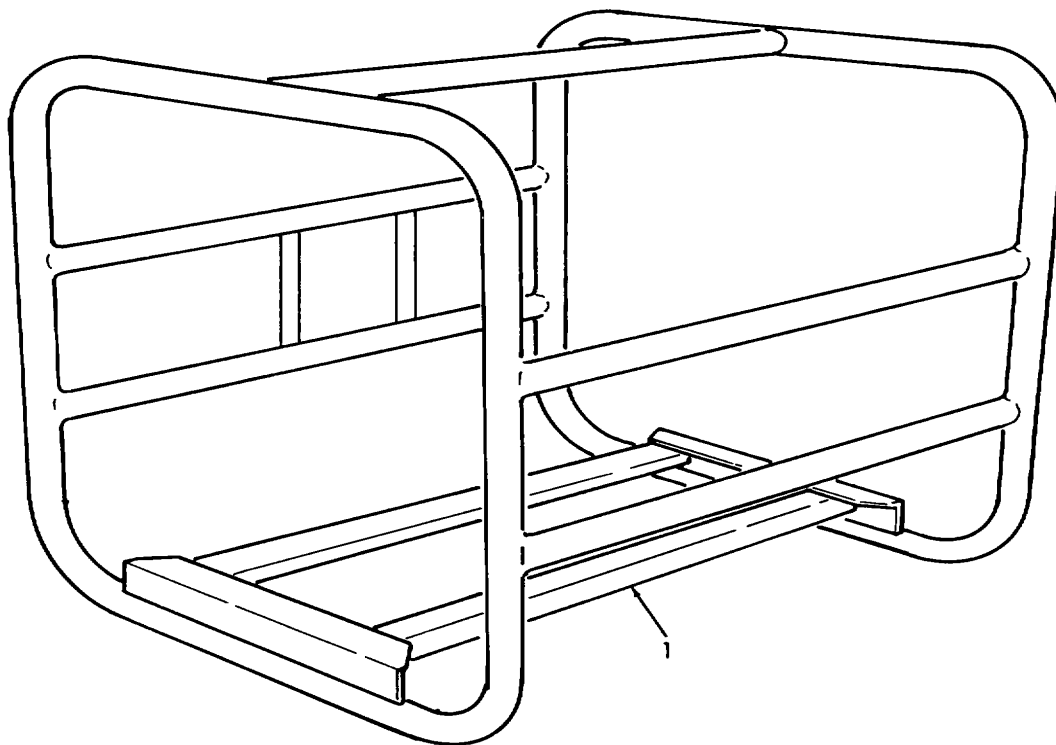

Figure 5-32. Frame Assembly Removal/Installation.
- a. Removal. Refer to figure 5-32 and remove frame assembly (1).